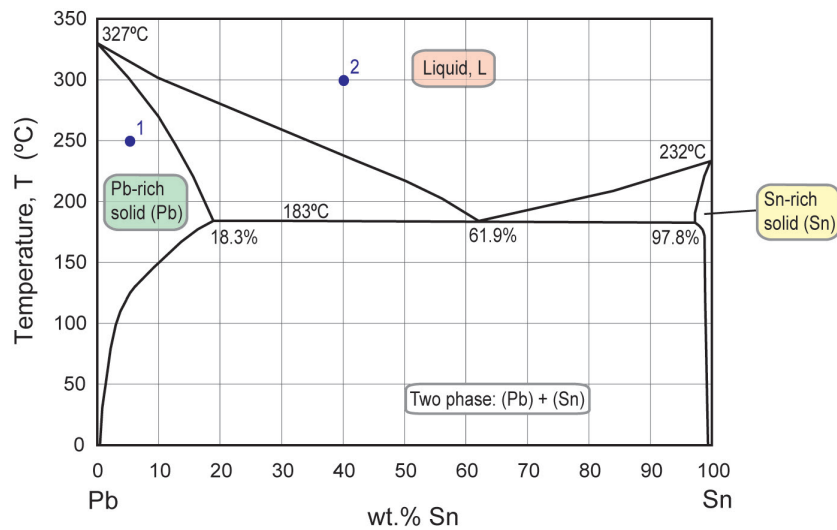

Figure 1: Pb-Sn phase diagram
6. Use the Pb-Sn diagram in Figure 1 to answer the following questions.